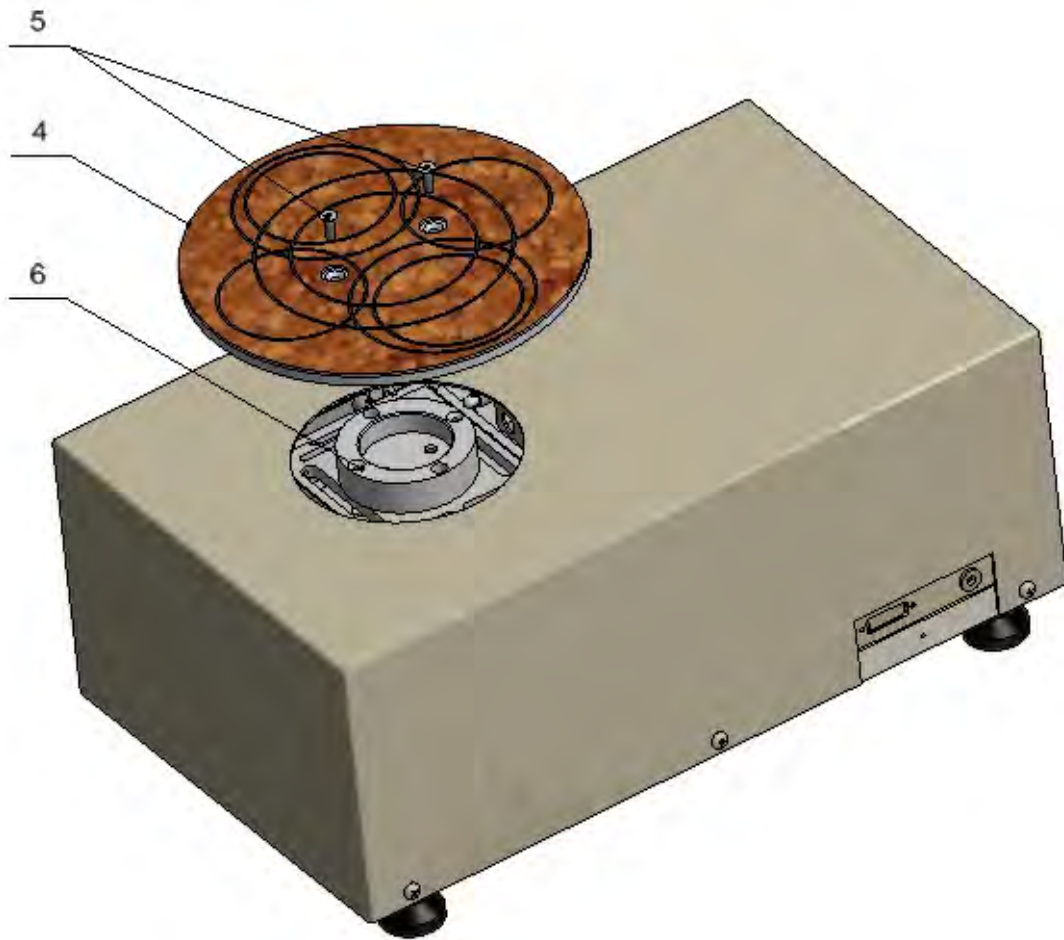

Fig.3
- Use two M5 screws (5) to fix a weighing pan (4) to a spacer (6). (Fig.3)
- Unscrew self-centring pan (4). (Fig.3)